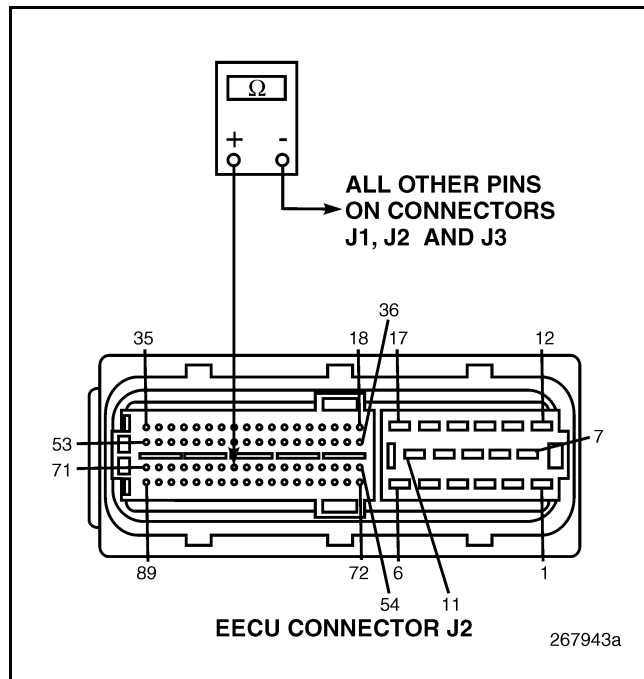

Figure 288
4. Check for continuity between EECU harness connector J2 pin 64 and all other pins on EECU connectors J1, J2, and J3 (see Figure 288).